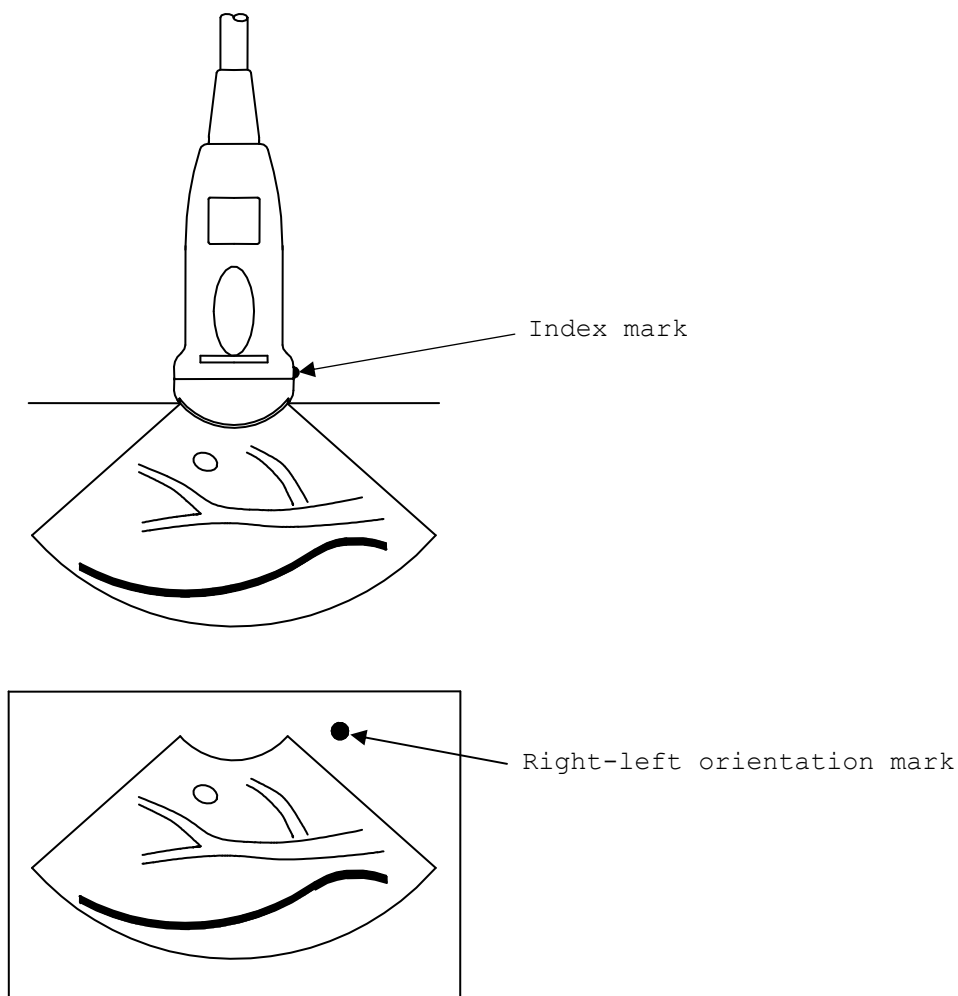

Fig.2 Relationship between the directions of the probe and the Right-left orientation mark
- 4) Confirm the direction of the probe. The relationship between the direction of the probe and image is shown in Fig.2.